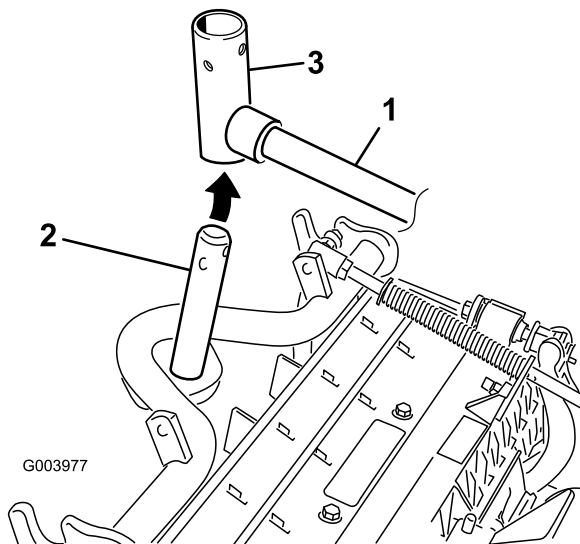

Figure 9
8. For the front cutting units, slide a cutting unit under the lift arm while inserting the carrier frame shaft up into the lift arm pivot yoke (Figure 9).
- B. Insert the lift arm yoke onto the carrier frame shaft (Figure 9).